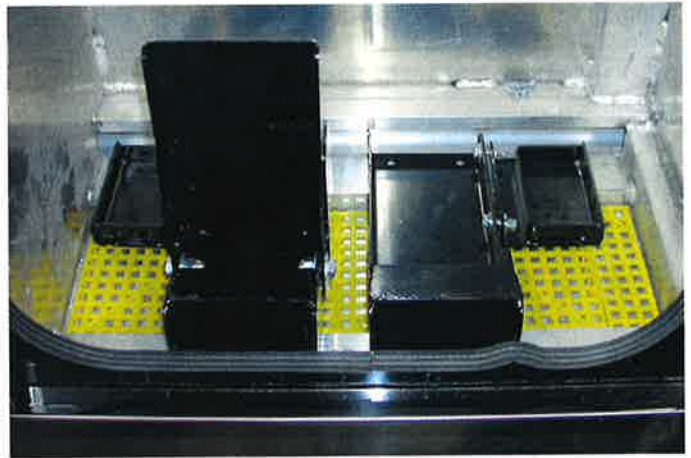

FIGURE 4
- (d) Place support & pivot bracket assemblies in bottom of tool compartment and position as shown in Figures 4 and 5.